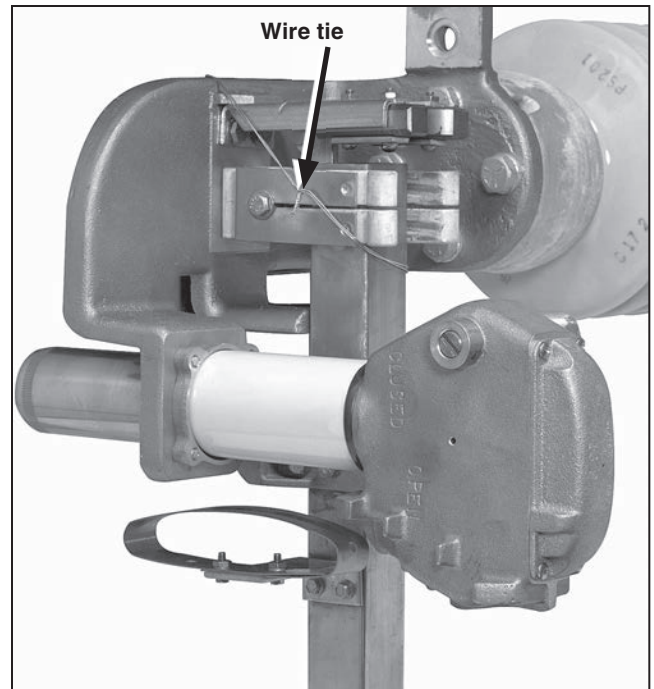

Figure 28. Remove the tie at the stationary main contact assembly.
STEP 25. Remove the ties holding the switch blades to their stationary main contact assemblies and the ties holding the toggle mechanisms to their stops. See Figure 28.